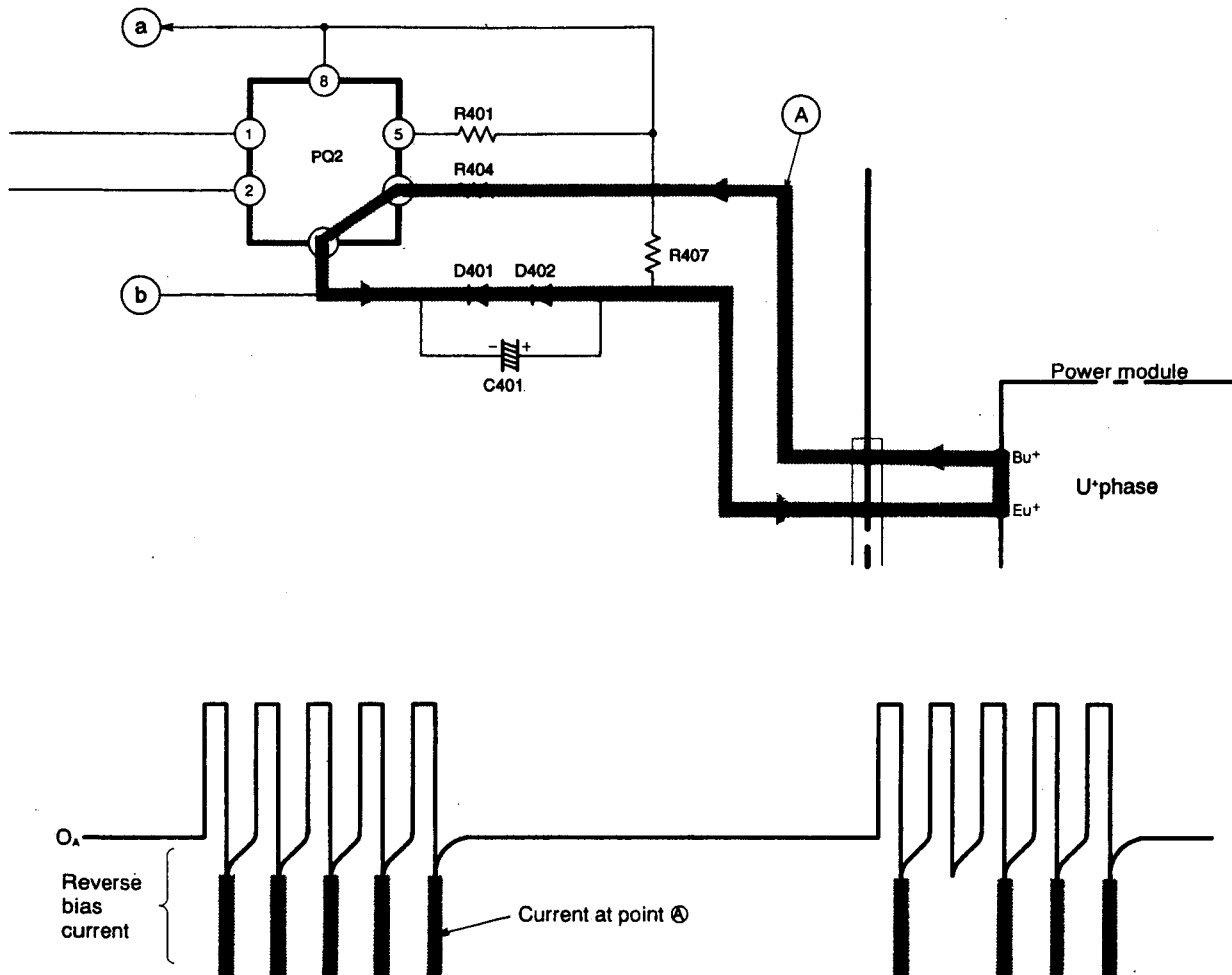

Fig. 7-3 Waveform of Transistor Base Current (Reverse Current at Point A)
- When pin ③ of the micro computer then goes “Lo” → “HI” a photocoupler between PQ2 pins ① and ② turns off and the reverse bias current flows to C401 → power module’s Eu⁺ terminals → Bu⁺ terminals → R404 → PQ2 to cut off the upper arm transistors. (Fig. 7-3)